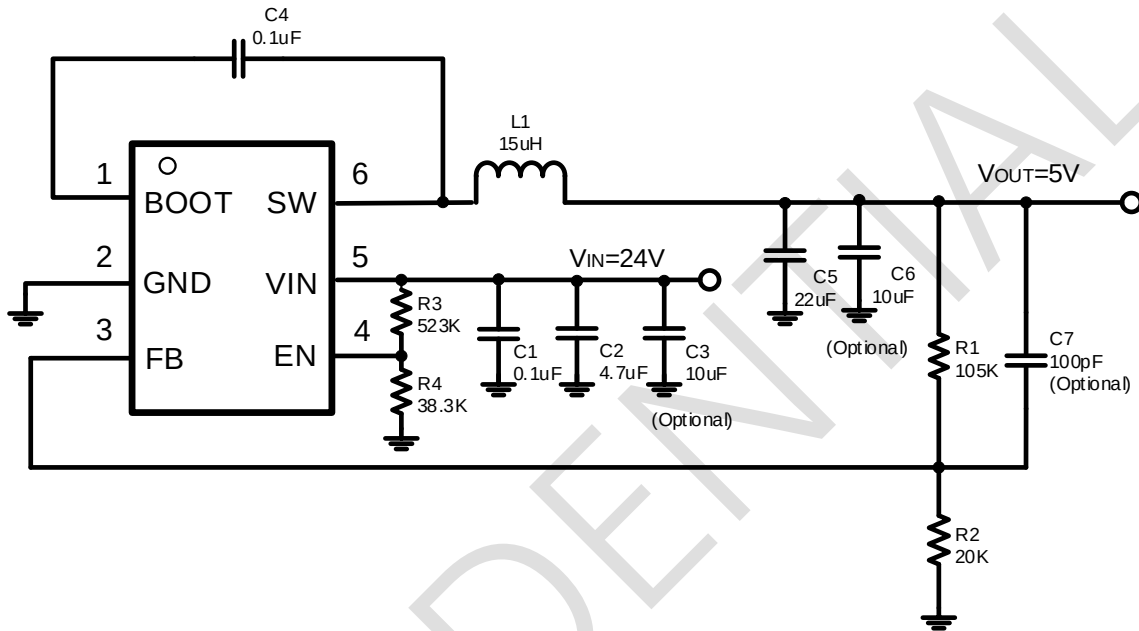
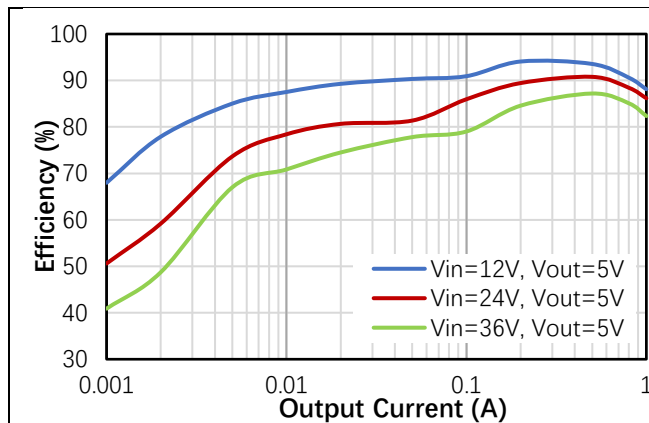
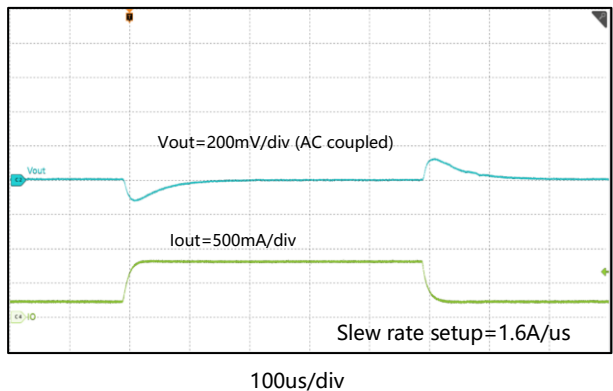

Figure 9. 24V Input, 5V/1A Output
Figure 10. Power Efficiency
Figure 25. Transient Response 0.2A-0.8A
The GBI1410 output voltage can be easily set up using a resistor divider network R1 and R2 as shown in the typical application circuit Figure 9. Use Equation (4) to calculate the resistor divider values.
Figure 10 through Figure 25 apply to the circuit of Figure 9. $V_{IN} = 24\text{ V}$, $T_A = 25^\circ\text{C}$ unless otherwise specified